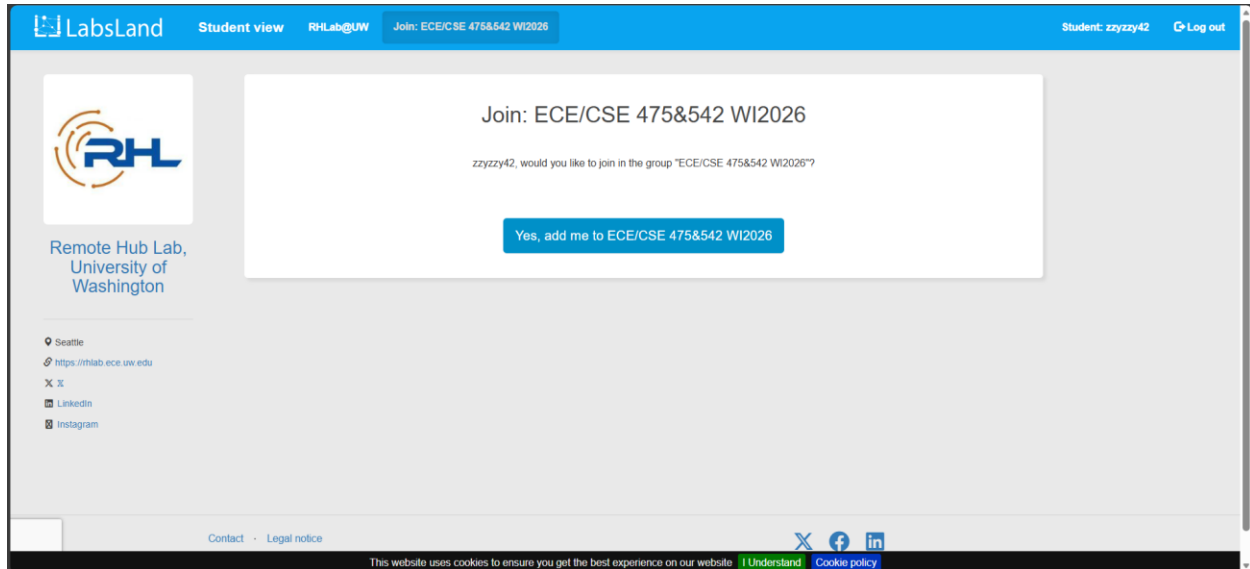

Figure 3
3. After you sign up, you should see an invitation to join the course group in Figure 3. Click the blue icon in the middle of the page, “Yes, add me to your course name”.